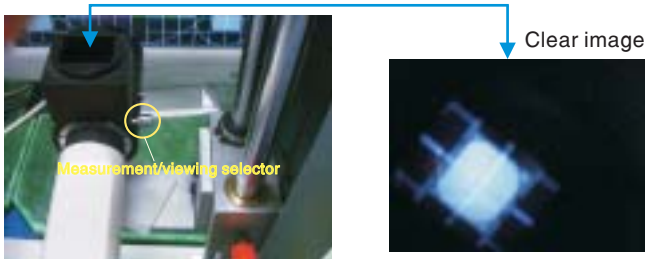

Fig. 4
- 2.7 Move the Lens barrel forward or backward to get clear image as shown in Fig. 4